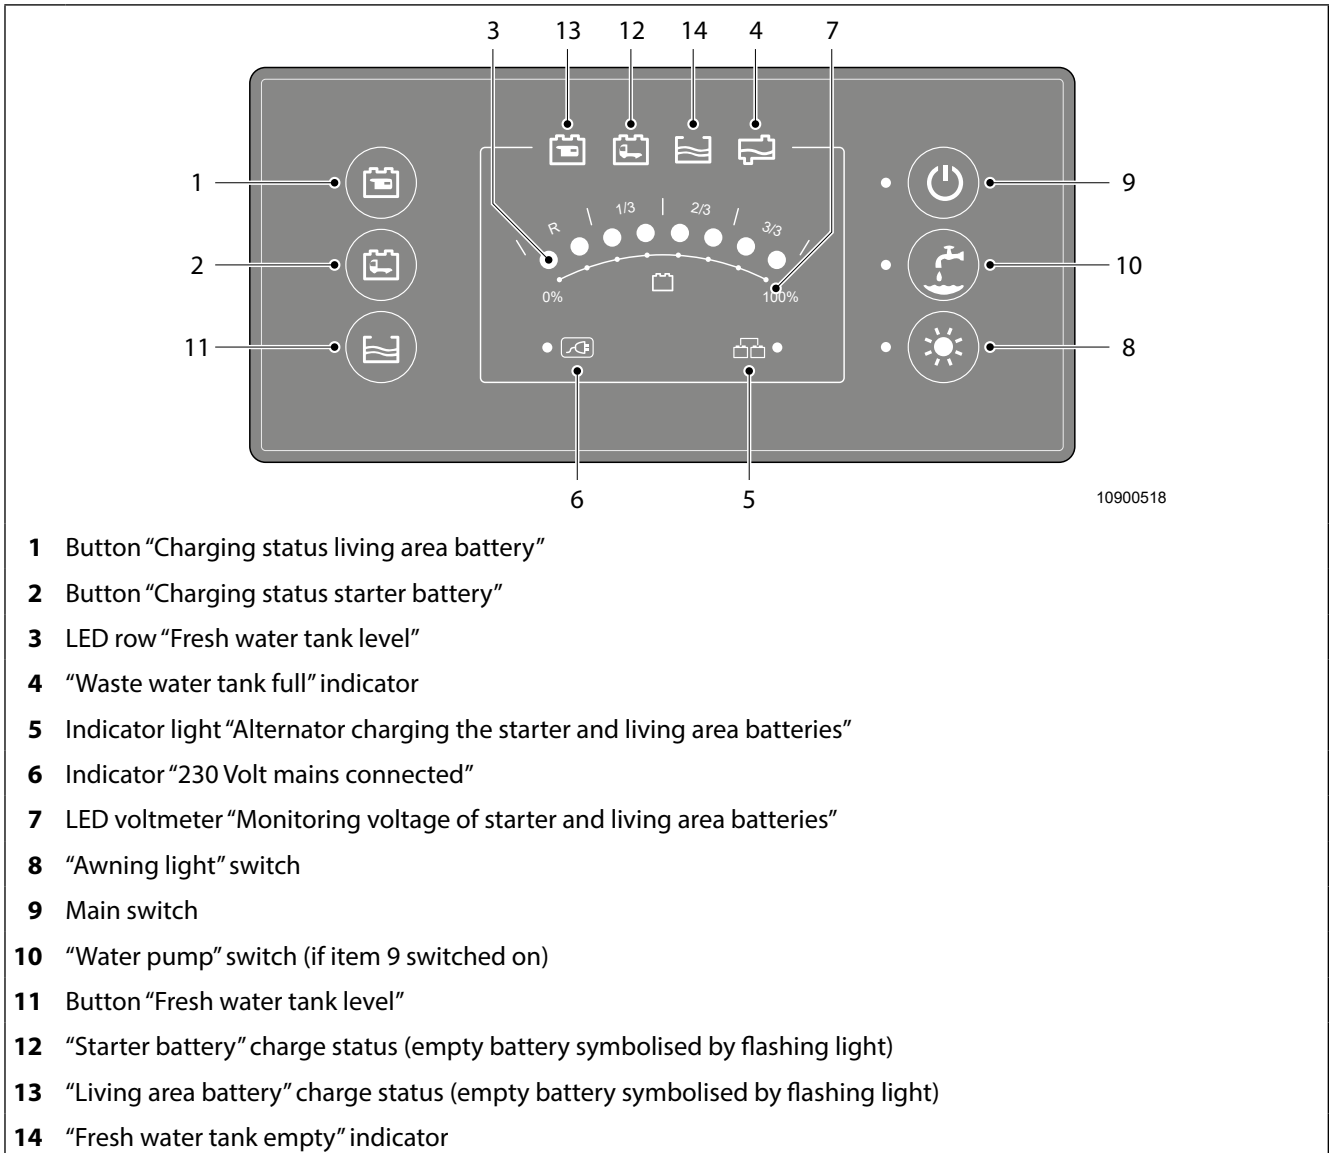

Fig. 54 On-board control PC-110
The water pump (Fig. 54, item 10) can be switched on and off via the main switch (Fig. 54, item 9) or using the respective individual switch on the on-board control.
The charge state of the starter battery (Fig. 54, item 2), the charge state of the living area battery (Fig. 54, item 1) and the tank level of the fresh water tank (Fig. 54, item 3) can be shown using the respective button on the on-board control. The LED display shows the charge state (Fig. 54, item 7) or the tank level (Fig. 54, item 3).
Red LED (Fig. 54, item 4) signals a full waste water tank.
By activating the main switch (Fig. 54, item 9), these appliances may be switched on again for approx. 1 minute, then they are switched off again automatically. The appliances are automatically switched on again when the voltage is above 12 V.
- ☞ Fully charge the living area battery if it will not be used for a longer period of time and then switch it off via the 12 V main switch (Fig. 54, item 9) on the on-board control.
Power is also steadily drained from the living area battery, about 20 to 65 mA, even when the appliances are switched off. In order to prevent damage to the living area battery, check the state of charge of the living area battery in regular intervals. If the living area battery is not used for an extended period of time, switch off the power supply using the main switch on the on-board control unit (Fig. 54, item 9).
1. Switch on the 12 Volt power supply on the main switch (Fig. 54, item 9).
2. Press the button "Charging status living area battery" (Fig. 54, item 1) or the button "charging status starter battery" (Fig. 54, item 2).
The battery voltage of the living area battery or the starter battery is displayed on the LED voltmeter "Monitoring voltage of starter and living area batteries" (Fig. 54, item 7).
- ◆ When the indicator "230 Volt mains connected" (Fig. 54, item 6) is illuminated, the living area battery and the starter battery are charged.
- ◆ When the indicator "230 Volt mains connected" (Fig. 54, item 6) is not illuminated, the living area battery and the starter battery are not charged.
2. Check if the indicator "230 Volt mains connected" (Fig. 54, item 6) is illuminated.